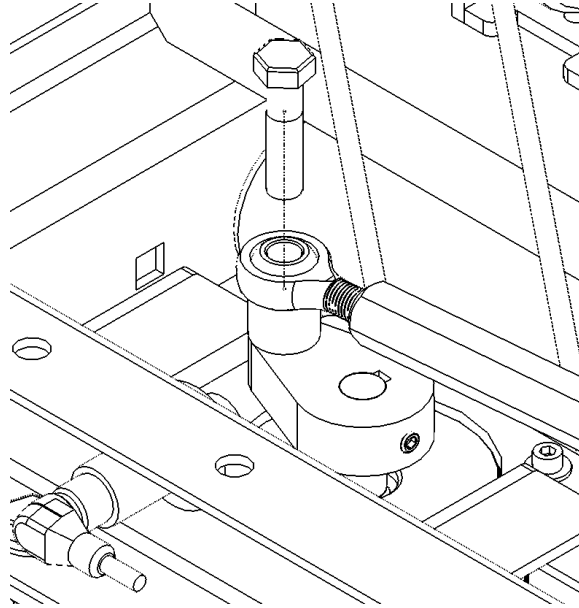

Figure 19: Connection between Divert linkage and Divert motor
3. Remove the 3/8" hex head cap screw that connects the crank arm on the PWD divert motor to the divert linkage arm. Refer to Figure 19 for the location of the bolt.